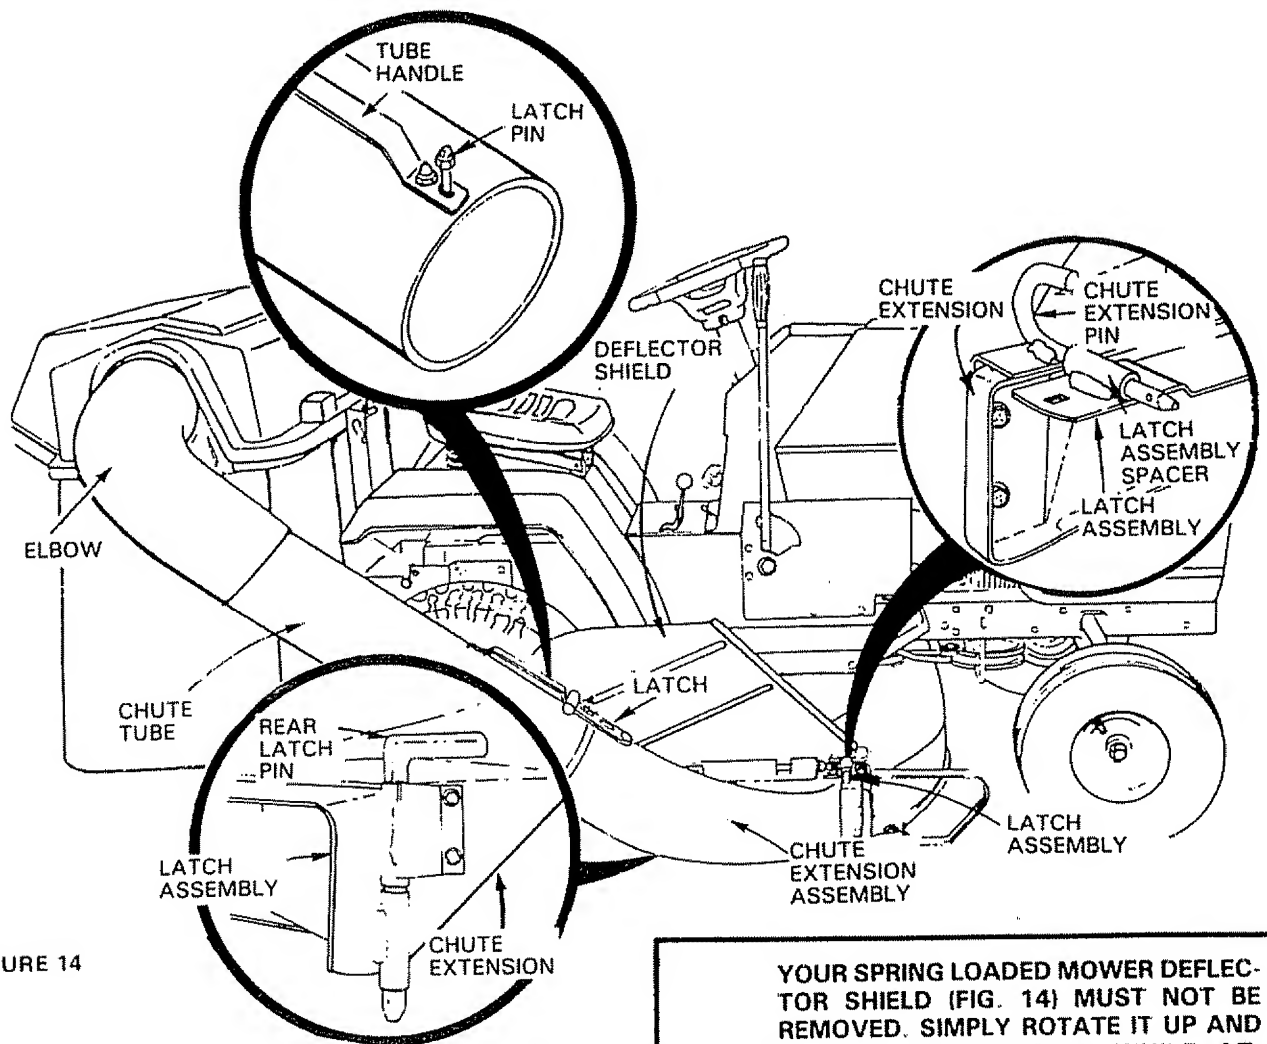

FIGURE 14
YOUR SPRING LOADED MOWER DEFLECTOR SHIELD (FIG. 14) MUST NOT BE REMOVED. SIMPLY ROTATE IT UP AND HOLD IN UP POSITION WHILE ATTACHING CHUTE EXTENSION. THE MOWER DEFLECTOR SHIELD CAN BE RELEASED TO REST AGAINST CHUTE EXTENSION. THIS WILL ASSURE DEFLECTOR SHIELD IS STILL ON MOWER IF CHUTE EXTENSION OF GRASS CATCHER ATTACHMENT IS REMOVED.
- Insert chute extension pin into latch assembly spacer (Fig. 14 - R.H. Inset).
- Lift up slightly on L.H. side of chute extension lining up spacers located on latch assembly and chute extension (Fig. 14 - Lower Inset).
- Secure R.H. side of chute extension to latch assembly using: retainer spring (shown full size below) (Fig. 14 - R.H. Inset). Chute extension and retainer spring furnished with grass catcher.
- e Secure L.H. side of chute extension to latch assembly using: latch pin and retainer spring (Fig. 14 - Lower Inset) Retainer spring shown full size below. Latch pin and retainer spring furnished with grass catcher.
14. Place chute tube (Fig. 14) in elbow. Place chute tube over extension (Fig. 14) and secure by hooking latch over latch pin (Fig. 14 - Upper Inset).
15. Close top cover. NOTE: Be sure elbow shield is on inside of top cover (Fig. 14).